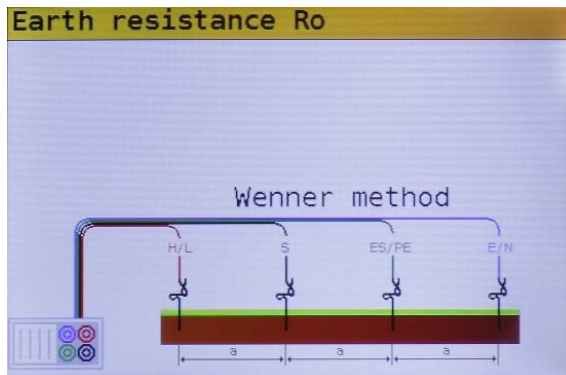

Figure 5.51: Connection diagram
Step 3 Follow the connection diagram shown in figures 5.51 to perform the **Specific Earth Resistance** measurement.